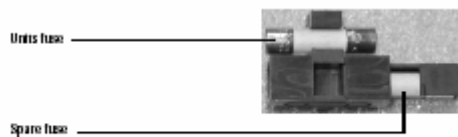

Figure 9 Inline fuse and spare
4. Inspect the fuse in service. See Figure 9. Replace if blown with a 6.3 A, 250 V type T fuse.